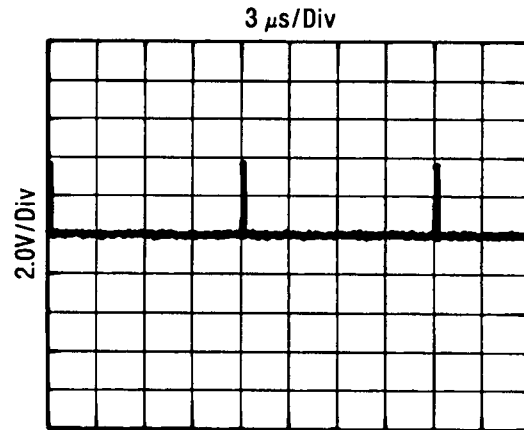

Figure 8-18. A2A5TP3, A2A3S1 Test Switch Set HIGH
14. Connect an oscilloscope to A2A5TP3. The waveform should appear as shown in figure 8-18.